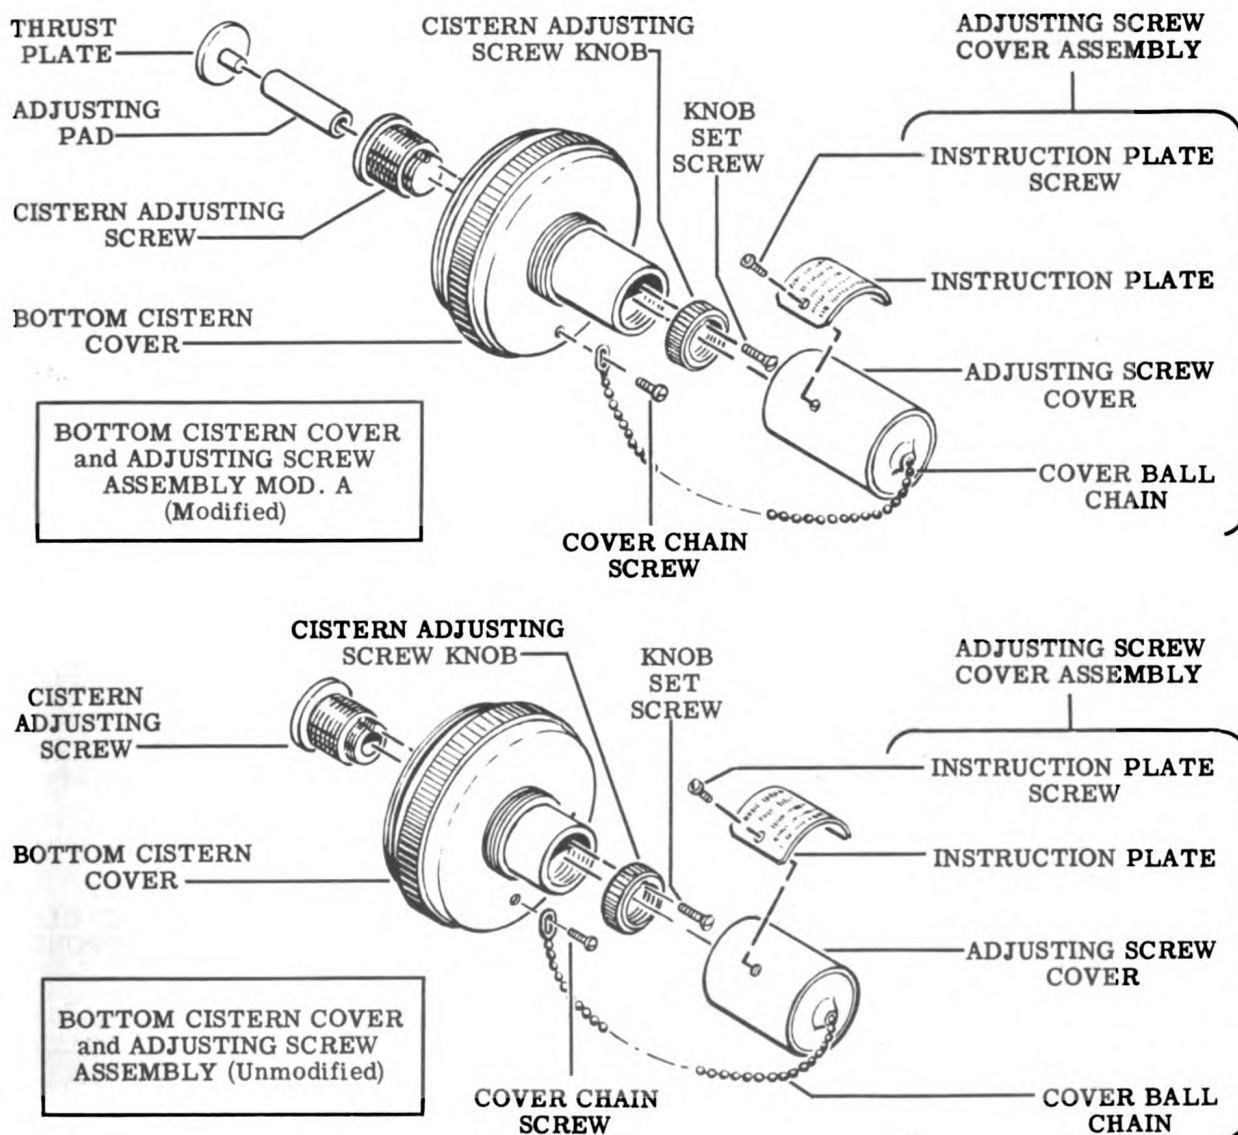

Figure 8
Differences" in Section II of this manual for details of "Modification A," and see Fig. 8 in this section.
9. Lift the thrust plate along with the adjusting pad out of the cistern adjusting screw. Remove the thrust plate from the adjusting pad. See the exploded view, Fig. 8, top.
10. Remove the cover chain screw, and unscrew the adjusting screw cover assembly from the bottom cistern cover. See the exploded view, Fig. 8.
11. Remove the knob set screw, then unscrew the cistern adjusting screw knob from the cistern adjusting screw. See the exploded view, Fig. 8.
12. Remove the cistern adjusting screw from the bottom cistern cover. See the exploded view, Fig. 8.
13. Remove the instruction plate by unscrewing the two instruction plate screws. See the exploded view, Fig. 8.